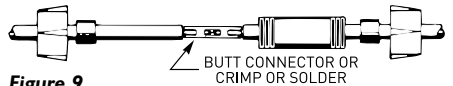

Figure 9
- F. Insert wire end into butt connector and crimp. **Match** cable and motor wire colors (see Figure 9).